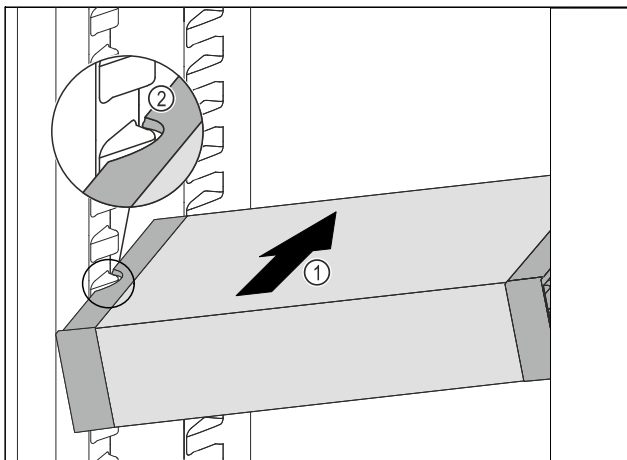

Fig. 81
- Insert the VarioSafe into the refrigerator compartment at an angle Fig. 81 (1) until the recesses in the side Fig. 81 (2) of the VarioSafe are at the level of the support rib in the refrigerator compartment.